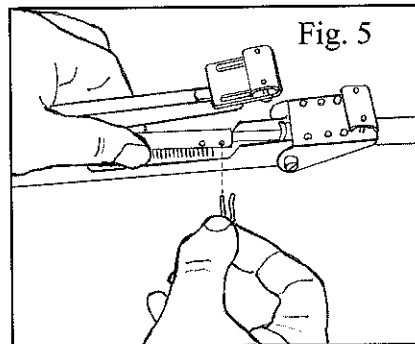

Fig. 5
- 2b. On For greenhouses made out of wood, get some screws for wood – and then follow our instructions mentioned outlined under pos. 3-4-5-6
- 2c. On aluminium-greenhouses where our clamps do not fit, read the manual supplied by the greenhouse manufacturer – and then follow our instructions mentioned under pos. 3-4-5-6
3. Insert the piston rod (2) on the cylinder (1) into the push-rod (4), and align the hole at the end of the piston-rod with Hole A in the push-rod, and lock it by inserting the small hairpin (5) – see Fig.5.